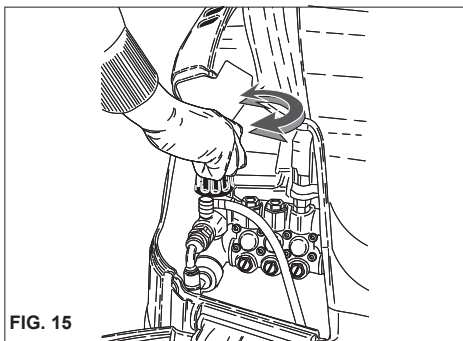

FIG. 15
This chapter concerns only those models provided with the "pressure regulating" device. The pressure regulator, fig. 15, allows the operator to adjust the working pressure. When knob C is turned in an anti-clockwise direction (B) (minimum), the working pressure is reduced.
2) Start the cleaner, activate the detergent suction control on the lance (fig. 15) and spray the surface to be washed, working from the bottom upwards. Leave to work for a few minutes..